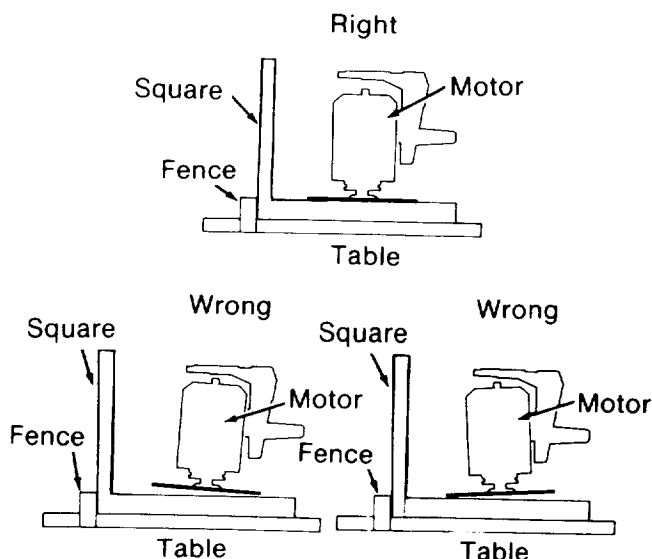

Fig. 99
8. If the square is flush with the *blade* after each rotation (Figure 99), go to step 18, or
If there is a gap between the square and the *blade* after any rotation (Figure 99), go to step 9.